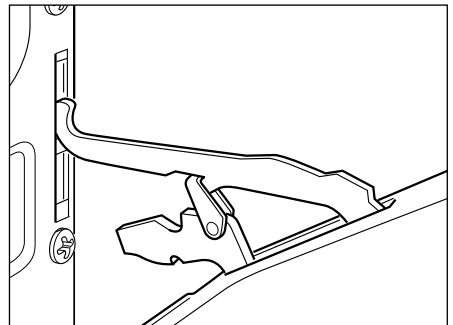

Fig.37d
- 4 Now pull the oven door forwards off the appliance. Release both hinge sections from the slots (Fig. 37d).